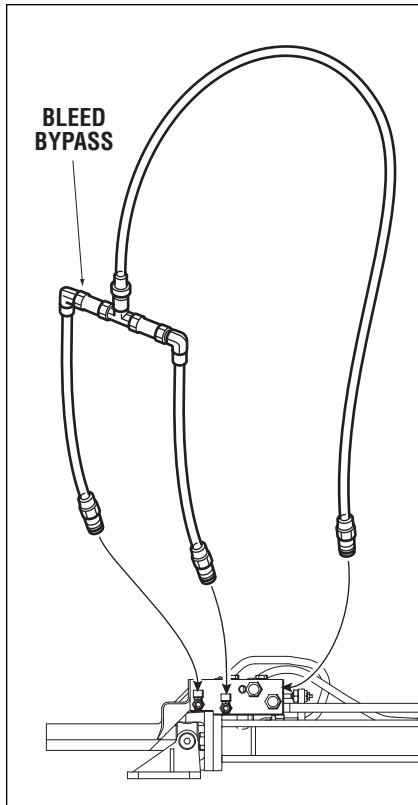

Figure 12. Fast Purge Kit HA2266.
- 4 Install Fast Purge Kit on steering cylinder and open all three cylinder bleeder fittings a 1/4 turn. (Refer to Figure 12.)